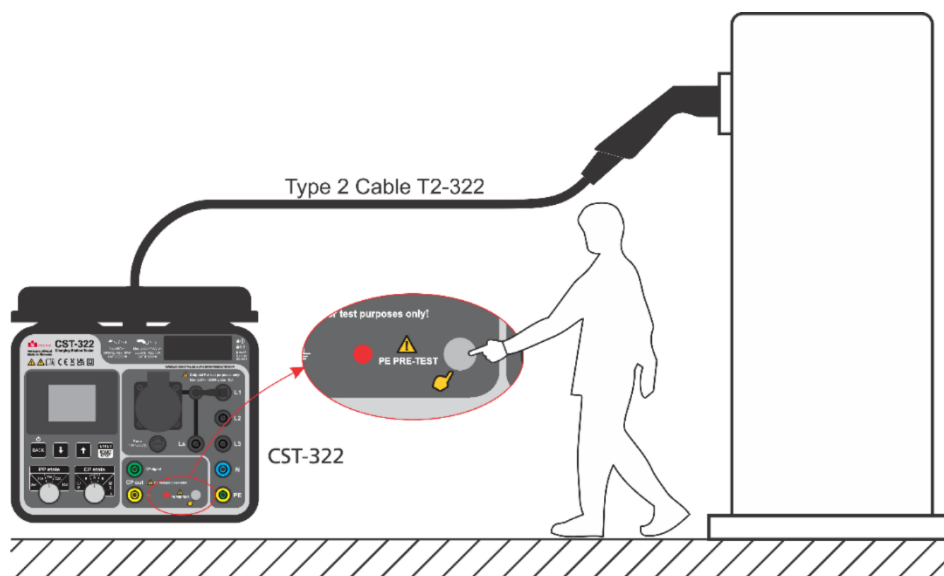

Figure 9: PE PRE-TEST
If the PE PRE-TEST test is successful (PE PRE-TEST warning lamp is OFF during touching the electrode according to the Figure 9 below), then continue with testing, otherwise resolve the possible wiring fault at PE conductor.
- Set the PP state switch to appropriate setting and CP switch to AUTO (A) position.
- Perform PE PRE-TEST. See Figure 9 above.
If the PE PRE-TEST is successful (PE PRE-TEST warning lamp is OFF during touching the electrode according to the Figure 9 above) then continue with testing, otherwise resolve the possible wiring fault at PE conductor.